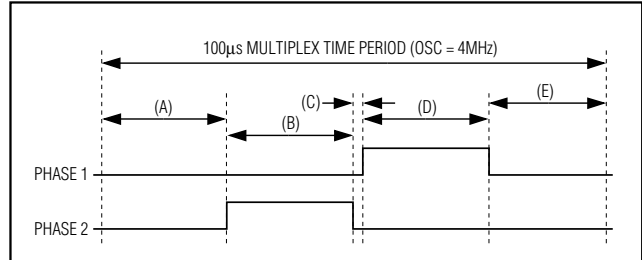

Figure 19. Filament Bridge Driver Timing Waveforms
The waveform generation uses PWM to set the effective RMS voltage across the filament, as a fraction of the external supply voltage (Figure 19) (Table 37). The filament switching frequency is synchronized to the multiplex scan clock, eliminating beating artifacts due to differing filament and multiplex frequencies.
The minimum commutation time, shown at (C) in Figure 19, is set by $(2/OSC)s$ (500ns when $OSC = 4MHz$) to ensure that shoot-through currents cannot flow during phase reversal. Otherwise, the duty cycle of the bridge (total on-time: total time) sets the RMS voltage across the filament. This technique provides a low-cost AC filament supply when using a regulated supply higher than the RMS voltage rating of the filament.